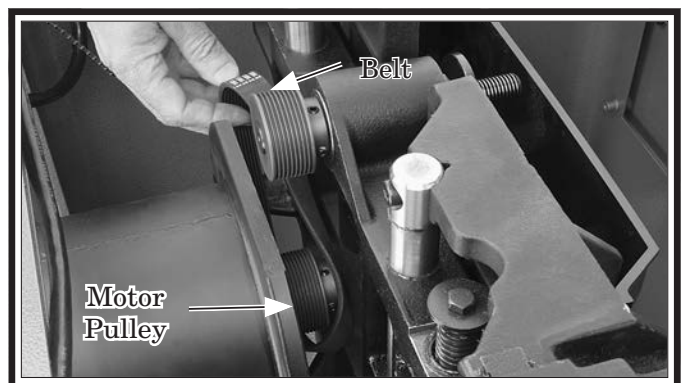

Figure 149. Installing belt.
8. Turn new belt sideways and slip it over motor pulley, as shown in **Figure 149**, so it engages one or two grooves.